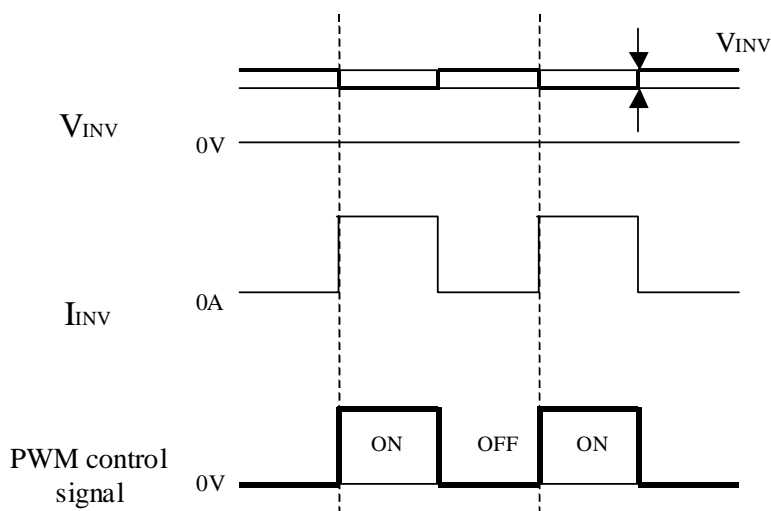

Fig.4 Brightness control voltage.
c) Brightness control voltage is switched for “ON” and “OFF”, as shown in Fig.4. Voltage difference generated by this switching, V_{INV} , may affect a sound output, etc. when the power supply is shared between the inverter and its surrounding circuit. So, separate the power supply of the inverter circuit with the one of its surrounding circuit.